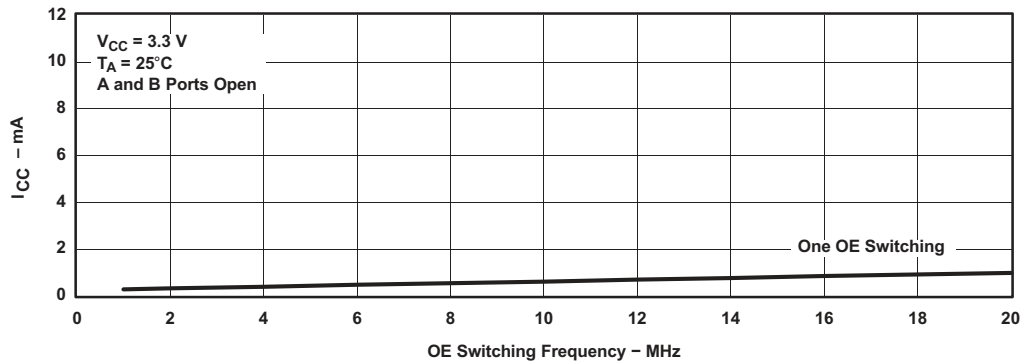

Figure 5. Typical  $I_{CC}$  vs OE Switching Frequency
(2) All typical values are at  $V_{CC} = 3.3\text{ V}$  (unless otherwise noted),  $T_A = 25^\circ\text{C}$ .
(3) For I/O ports, the parameter  $I_{OZ}$  includes the input leakage current.
(4) This is the increase in supply current for each input that is at the specified TTL voltage level, rather than  $V_{CC}$  or GND.
(5) This parameter specifies the dynamic power-supply current associated with the operating frequency of a single control input (see Figure 5).